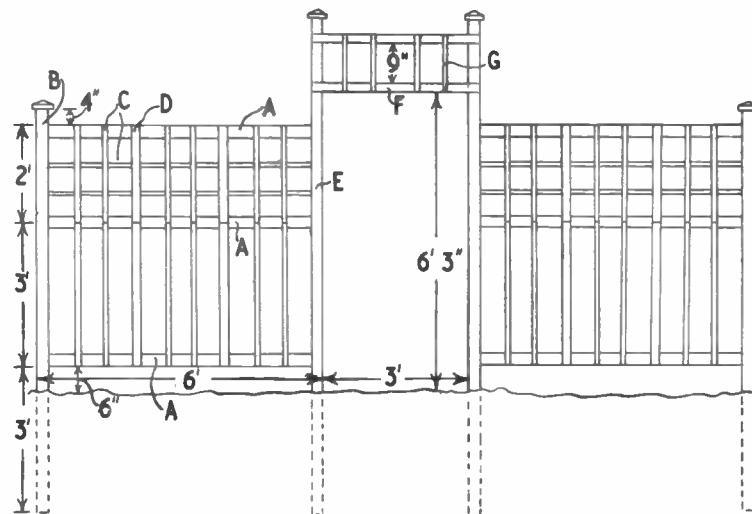

Fig. 1
Having satisfactorily assembled the main pieces (A), (B) and (E) you can now commence to nail in position the narrow strips of wood to give the decorative effect. These strips (C) and (D) should be about $\frac{1}{8}$ in. thick and of suitable width, say about 1in. to $1\frac{1}{2}$ in. for (C) and 2ins. for pieces (D). It will be obvious from Fig. 1 how these are nailed to pieces (A).